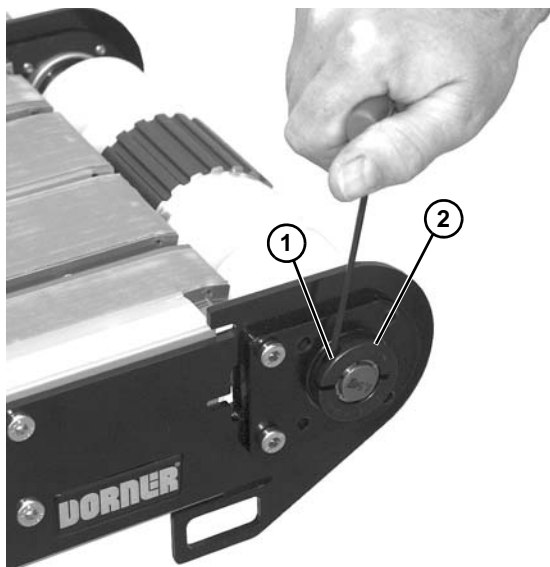
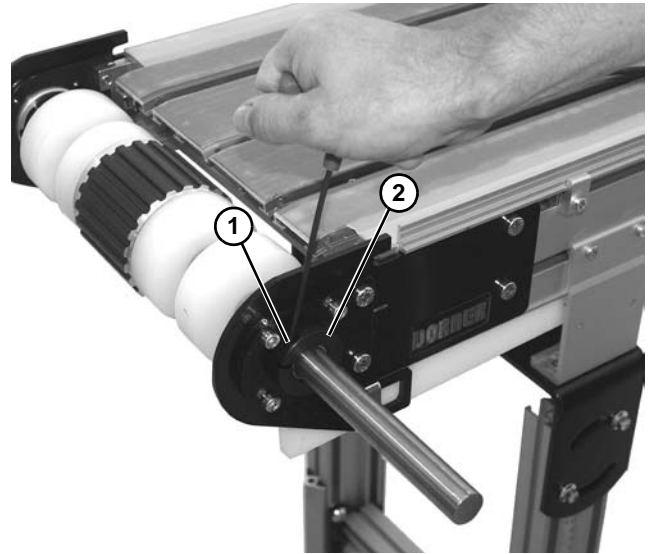

Figure 37
Figure 38
3. Loosen the bearing collar set screw (**Figure 37, item 1**) and remove bearing collar (**Figure 37, item 2**). Repeat on drive shaft side of pulley (**Figure 38, item 1**) and (**Figure 37, item 2**).